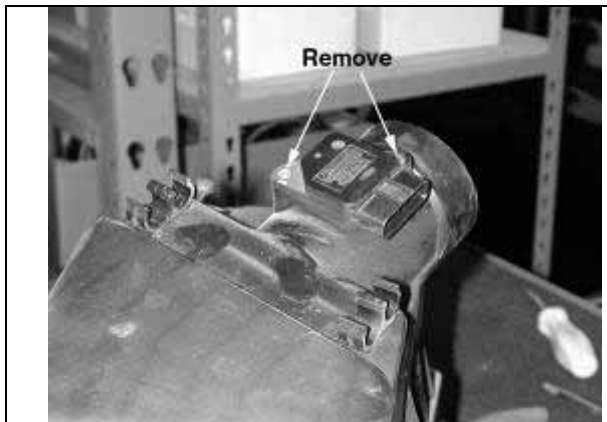

Fig. 9
- e. Remove the MAF sensor from the stock air box assembly. (Fig. 9)